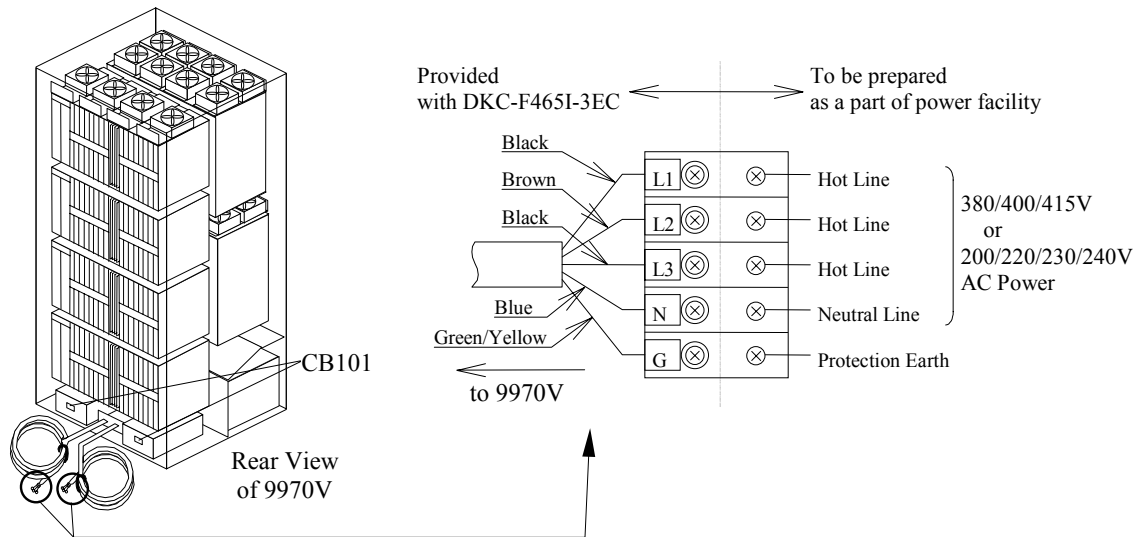

Figure 5.19 Power Plugs for Three-Phase 9970V Subsystem (Europe)
- Figure 5.19 illustrates the power plugs for a three-phase 9970V subsystem (Europe).